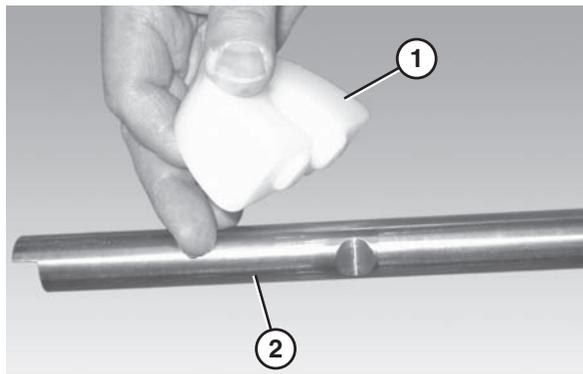

Figure 43
1. Attach the chain return shoes (**Figure 43, item 1**) to the return shaft (**Figure 43, item 2**).